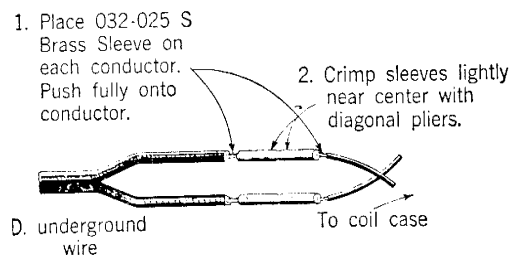

Fig. 9
**2.06** Splice the buried wire to the coil case as shown in Figs. 9 and 10.